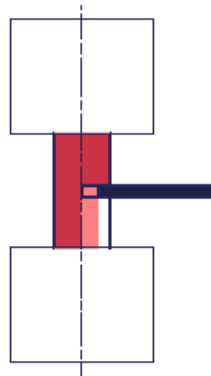

Fig.2
- For other edges : ± 0.1 mm, in addition of the Wobbling Value. (fig.2 and 3)